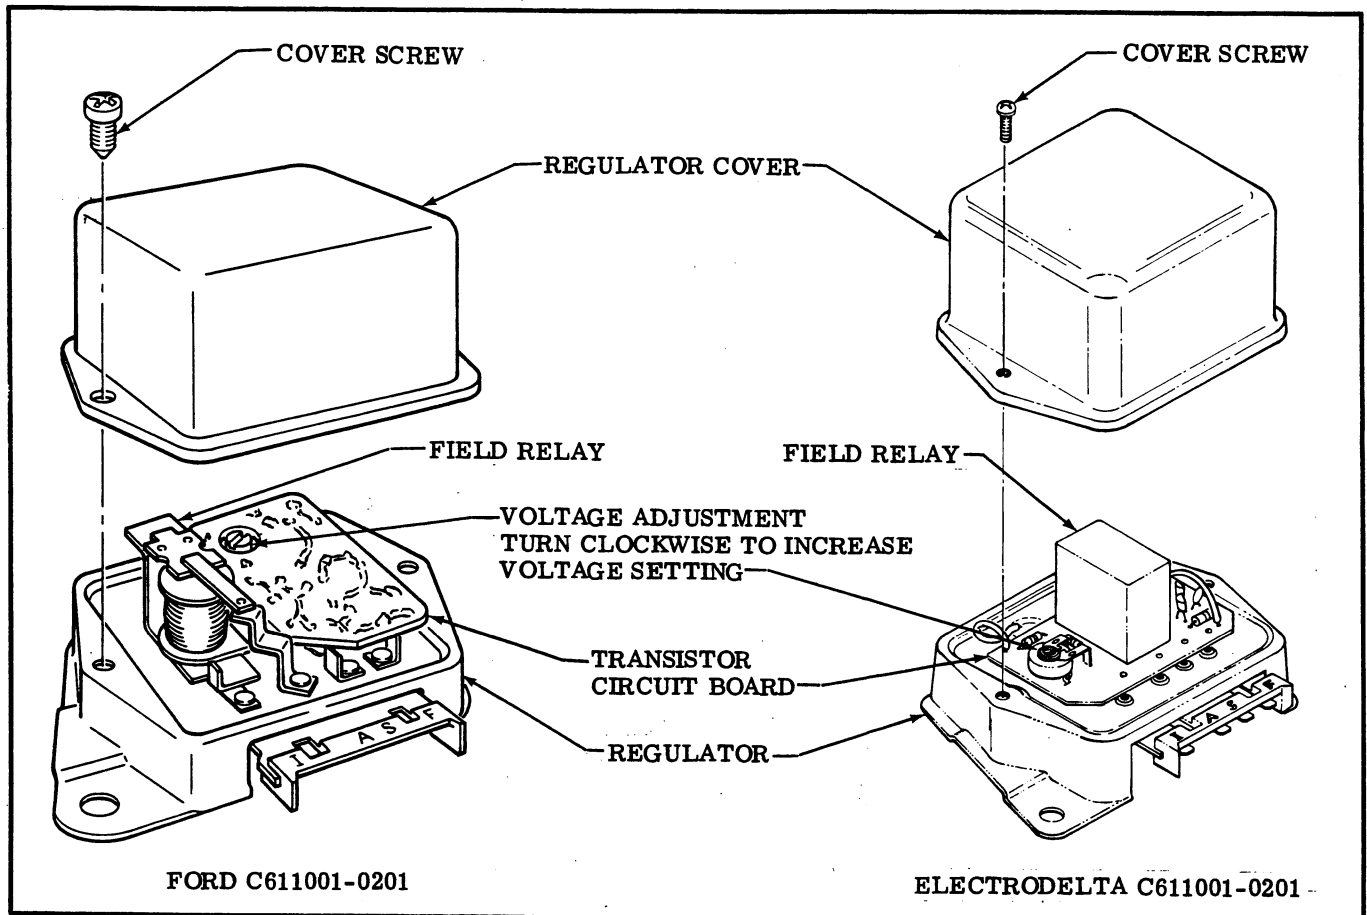

FIGURE 15
3. An internal voltage adjustment is provided on the printed circuit board. Turning the control clockwise increases the voltage setting and counterclockwise rotation decreases voltage. (See Figure 15 for illustration).
To adjust the voltage limiter, refer to Figure 15 and proceed as follows: